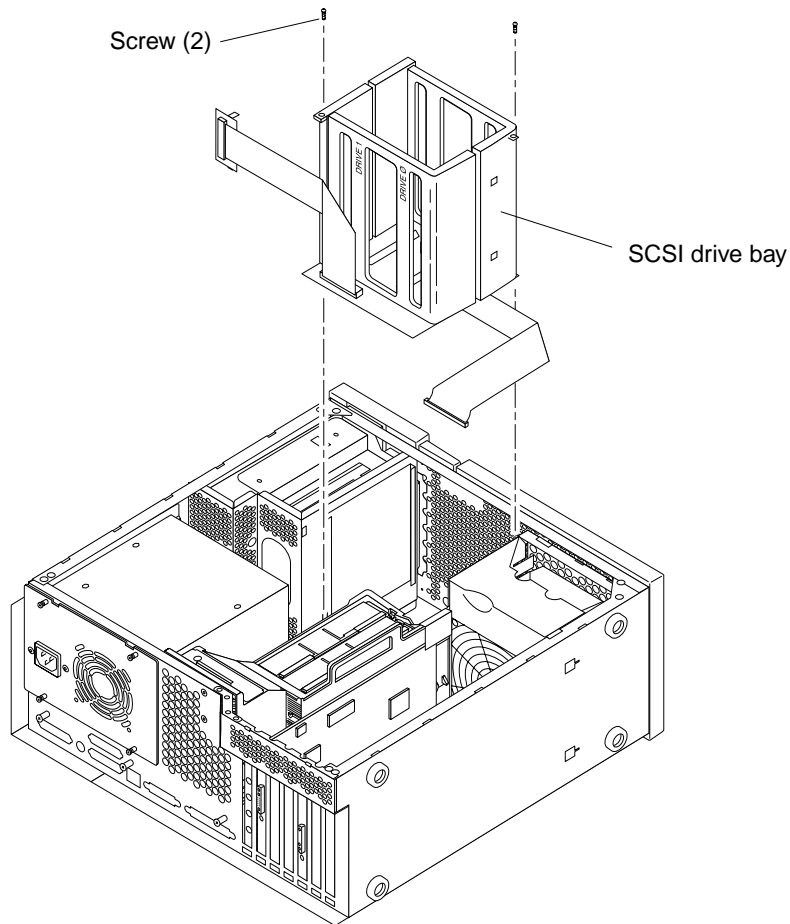

FIGURE 8-4 Removing and Replacing the SCSI Drive Bay
- 4. Remove the SCSI drive bay as follows (FIGURE 8-4):**
1. **Replace the SCSI drive bay as follows (FIGURE 8-4):**